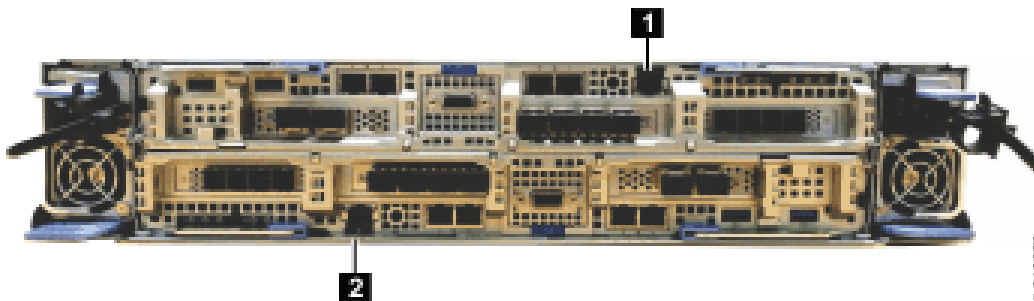

Figure 62. Technician port
4. Disconnect the personal computer from all networks. Connect an Ethernet cable between the port of the personal computer that is configured in step “2” on page 102 and the technician port in the left canister (1) that is shown in Figure 62 on page 102.